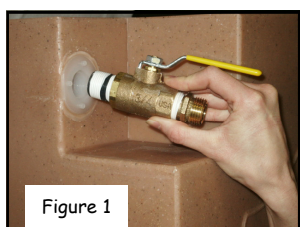

Figure 1
1. **Install Drain Valve Assembly.** (figure 1) Lay Main Body on its side with the 3/4" white female threaded fitting pointing towards you. From the outside, carefully thread the black male pipe-threaded end of the Drain Valve Assembly into the white female threaded fitting. DO NOT CROSS-THREAD. Hand tighten only to a snug fit with the handle in a convenient location for use. Close the valve.